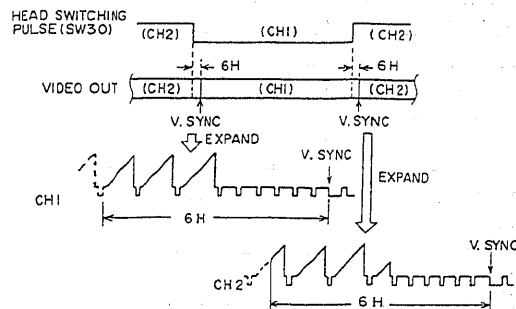

Fig. 4-104
(1) Setting the Head Switching Point (Figs. 4-104, 4-151)